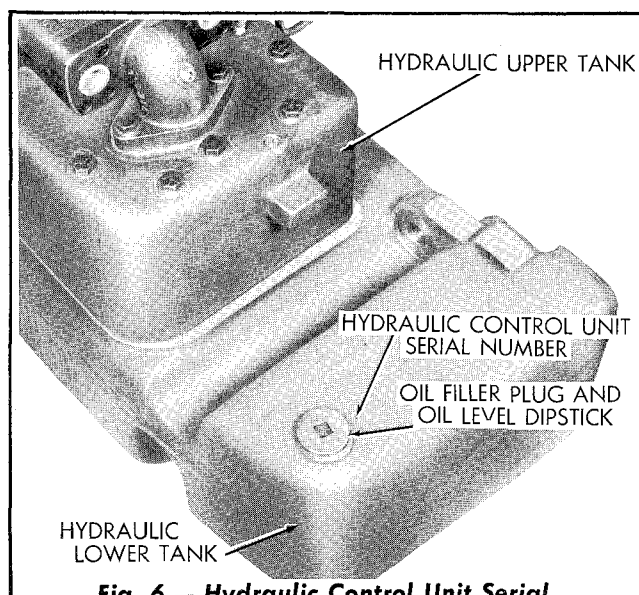

Fig. 6 — Hydraulic Control Unit Serial Number Location
- a. Thoroughly clean the oil filler plug and oil level dipstick (Fig. 6) and the surrounding area. Remove the oil filler plug and oil level dipstick from the hydraulic tank. Fill the hydraulic tank with the specified oil to the oil level mark on the dipstick. Turn the oil filler plug and dipstick about $\frac{3}{4}$ turn into the upper tank; do not tighten.
The hydraulic control unit serial number is stamped on the top of the hydraulic lower tank, to the rear of the oil filler plug and oil level dipstick opening, as shown in Fig. 6.